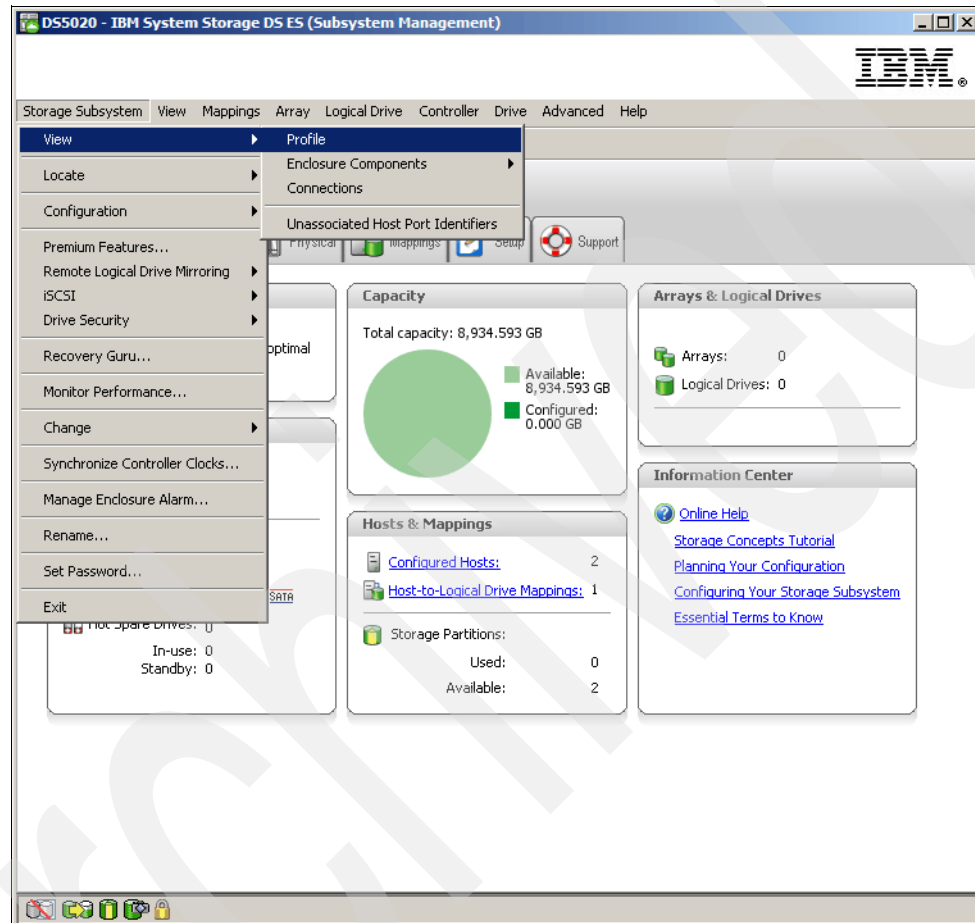

Figure 10-44 Select the profile
- Go to IBM System Storage DS ES (Subsystem Management) and in the top menu select Storage Subsystem → view → Profile as shown in Figure 10-44.